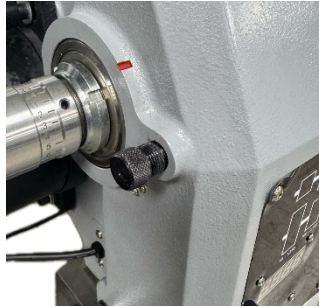

Figure 7-7: index pin
See Figure 7-7.
1. Rotate spindle using handwheel until index pin (Figure 7-7) aligns with desired hole.